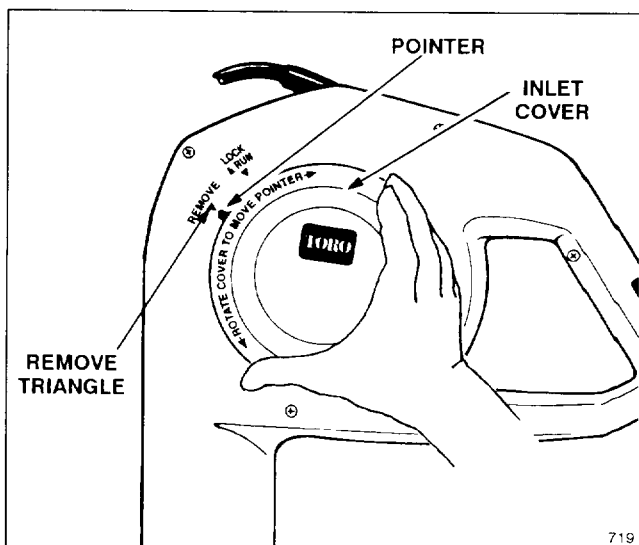

Figure 2
3. Position the inlet cover in the slotted ring so that the black pointer on the cover lines up with REMOVE triangle on the housing (Fig. 2).